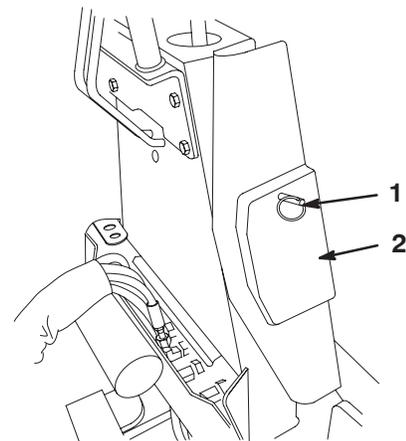

Figure 24
6. Secure the clamp to the backhoe by inserting the end of the pin through the clamp into the hole in the side of the control tower (Fig. 24 for 200/300 series traction units. The TX traction unit has a shorter pin through its clamp).